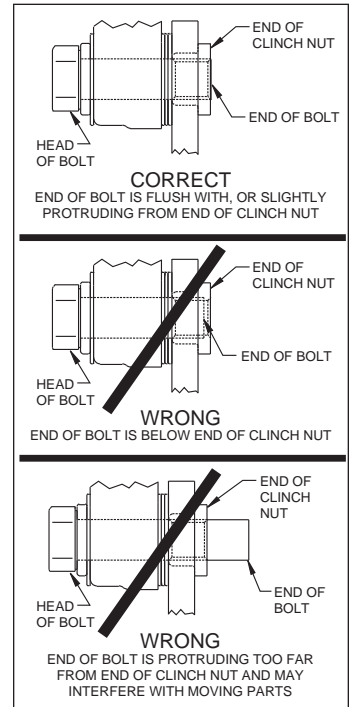

Figure 4. Clinch Nut Engagement Diagram
- Pack the small outer bearing cone (15) with high temperature disc brake bearing grease and install into hub (8). Slide the hub/rotor assembly onto the spindle. Secure using spindle washer (16) and OEM spindle nut, Photo 5. Adjust bearings per Original Equipment Manufacturer (OEM) specifications. Install saved OEM nut lock (if any) and a new cotter pin (not supplied).
- Install the dust cap (17) onto the hub (8), Photo 6. Friction created by the o-ring (18) on the dust cap (17) keeps it from unscrewing. **NOTE:** The O.D. of the existing OEM spindle washer may be larger than the I.D. of the dust cap not allowing it to seat against the hub face. Therefore, use the spindle washer (16) supplied with the kit instead of the OEM washer.
- NOTE:** Please reference the caution statement at the beginning of the assembly instructions. Mount the caliper (19) onto the caliper bracket (1) using washers (20) and bolts (21), as shown in Figure 1. Initially place two .035" thick shims (22) on each bolt between the caliper and the bracket, Photo 7. Temporarily tighten the mounting bolts and view the rotor (12) through the top opening of the caliper. The rotor should be centered in the caliper, Photo 8. If not, adjust by adding or subtracting shims between the bracket and the caliper. **NOTE:** The end of the bolt must be flush with or slightly protruding from the head of the clinch nut. See Figure 4. Place spare shims (22) between washer and caliper mounting ear to achieve the proper mounting fastener configuration. Always use the same amount of shims on each of the two mounting bolts. Once the caliper alignment is correct, remove the bolts one at a time, apply red *Loctite*® 271 to bolt threads, and torque to 40 ft-lb.
- Install the disc brake pads (23) into the caliper, with the friction material facing the rotor (12) and secure in place using cotter pin (24), Photo 9.